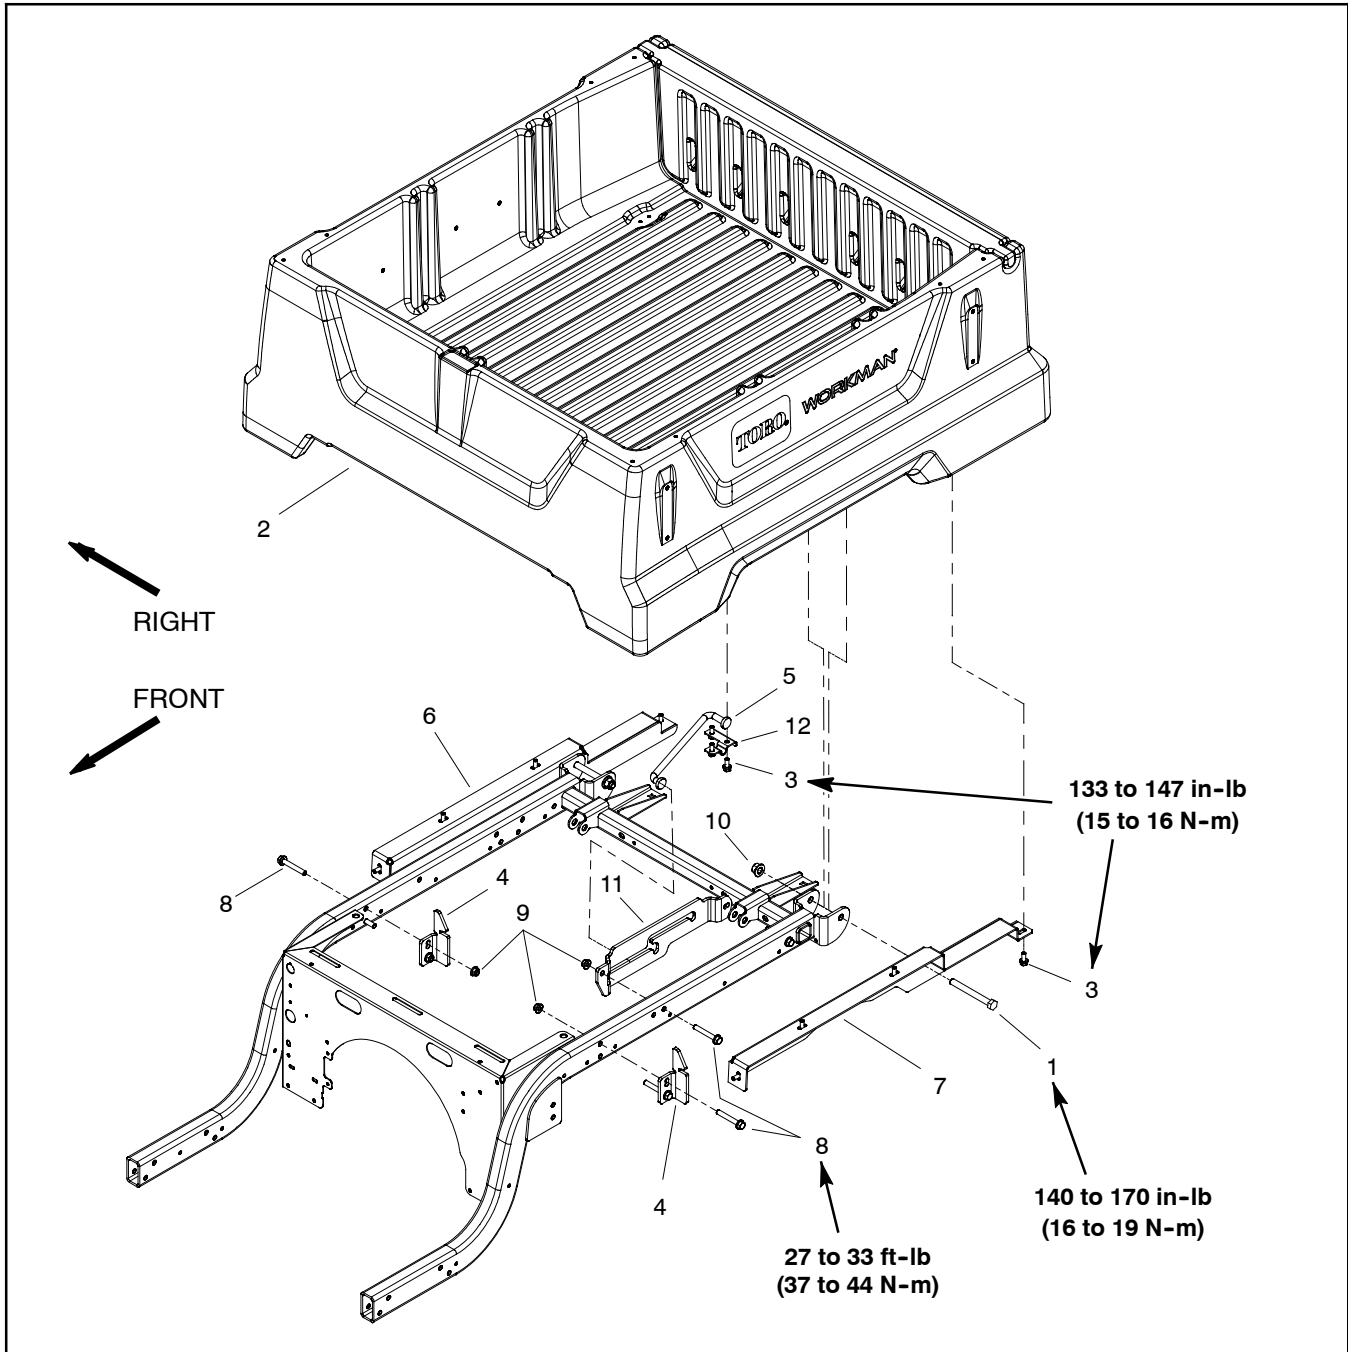

Figure 42
3. If necessary, remove cargo bed from vehicle (Fig. 42):
- B. Remove three (3) flange head screws that secure prop rod U-bracket (item 12) to bed and remove bracket and prop rod (item 5).
- D. Remove two (2) cap screws (item 1) and lock nuts (item 10) that secure cargo bed assembly to frame.
4. Disassemble cargo bed as necessary using Figures 42, 43 and 44 as guides.
1. Assemble cargo bed using Figures 42, 43 and 44 as guides.
2. If removed, secure cargo bed to vehicle (Fig. 42):
- B. Secure cargo bed assembly to frame with two (2) cap screws (item 1) and lock nuts. Torque cap screws from **140 to 170 in-lb (16 to 19 N-m)**.
- D. Make sure that end of prop rod (item 5) is installed into slot in prop rod bracket (item 11) attached to frame.
- E. Secure prop rod U-bracket (item 12) and prop rod to bed with three (3) flange head screws. Torque screws from **133 to 147 in-lb (15 to 16 N-m)**.
3. Adjust bed latch strikers (item 4 in Fig. 42) so that cargo bed closes completely and is latched at both sides. Strikers can be raised or lowered to latch bed.